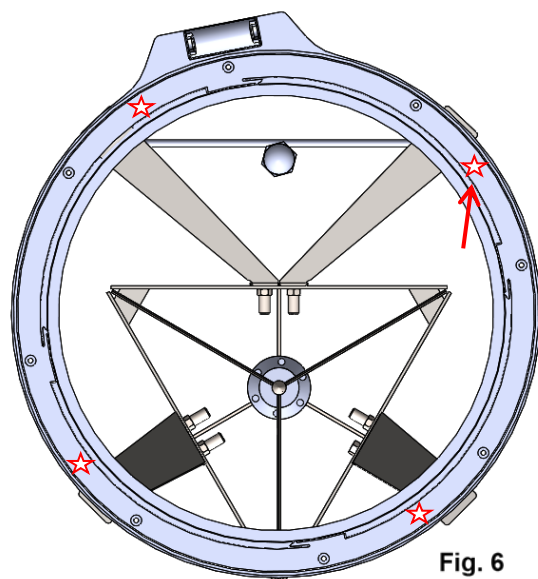

Fig. 6
14. Typically, the installation of a Chem-Blade Plus sets the legs centered between lid screw holes. However, we provide extra screws to make the lid assembly more rigid near all Chem-Blade legs. Please refer to **Fig. 6** where the Star emblems give locations for the extra screws. Please use a drill with a **5/16" drill bit** to create shallow countersinks at these locations. **(CAUTION! Carefully apply pressure and rotate drill very slowly making sure to not drill through the black collar, the screw itself will need to create the through hole. The countersink can be very shallow to be effective in keeping the screw heads low and from dragging and thus interrupting the motion of the lid.**